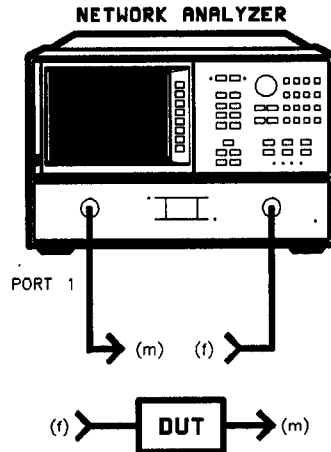

Figure 4-9. Test Port Cabling
2. Ensure that the system is properly cabled. Refer to Figure 4-9. Improper cabling may cause failure (especially with the 25Ω airline).